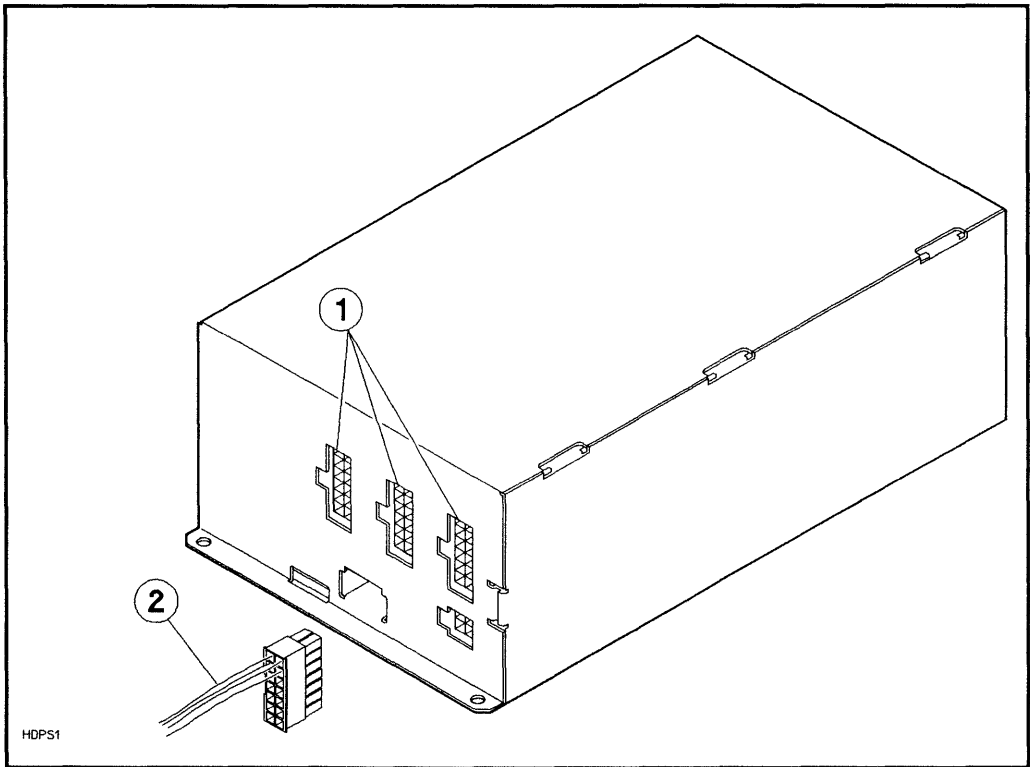

Figure 1-7. Connecting the DC Power Cable
5. Connect the other end of the dc power cable to any of the unused dc power connectors on the power supply (see Figure 1-7).